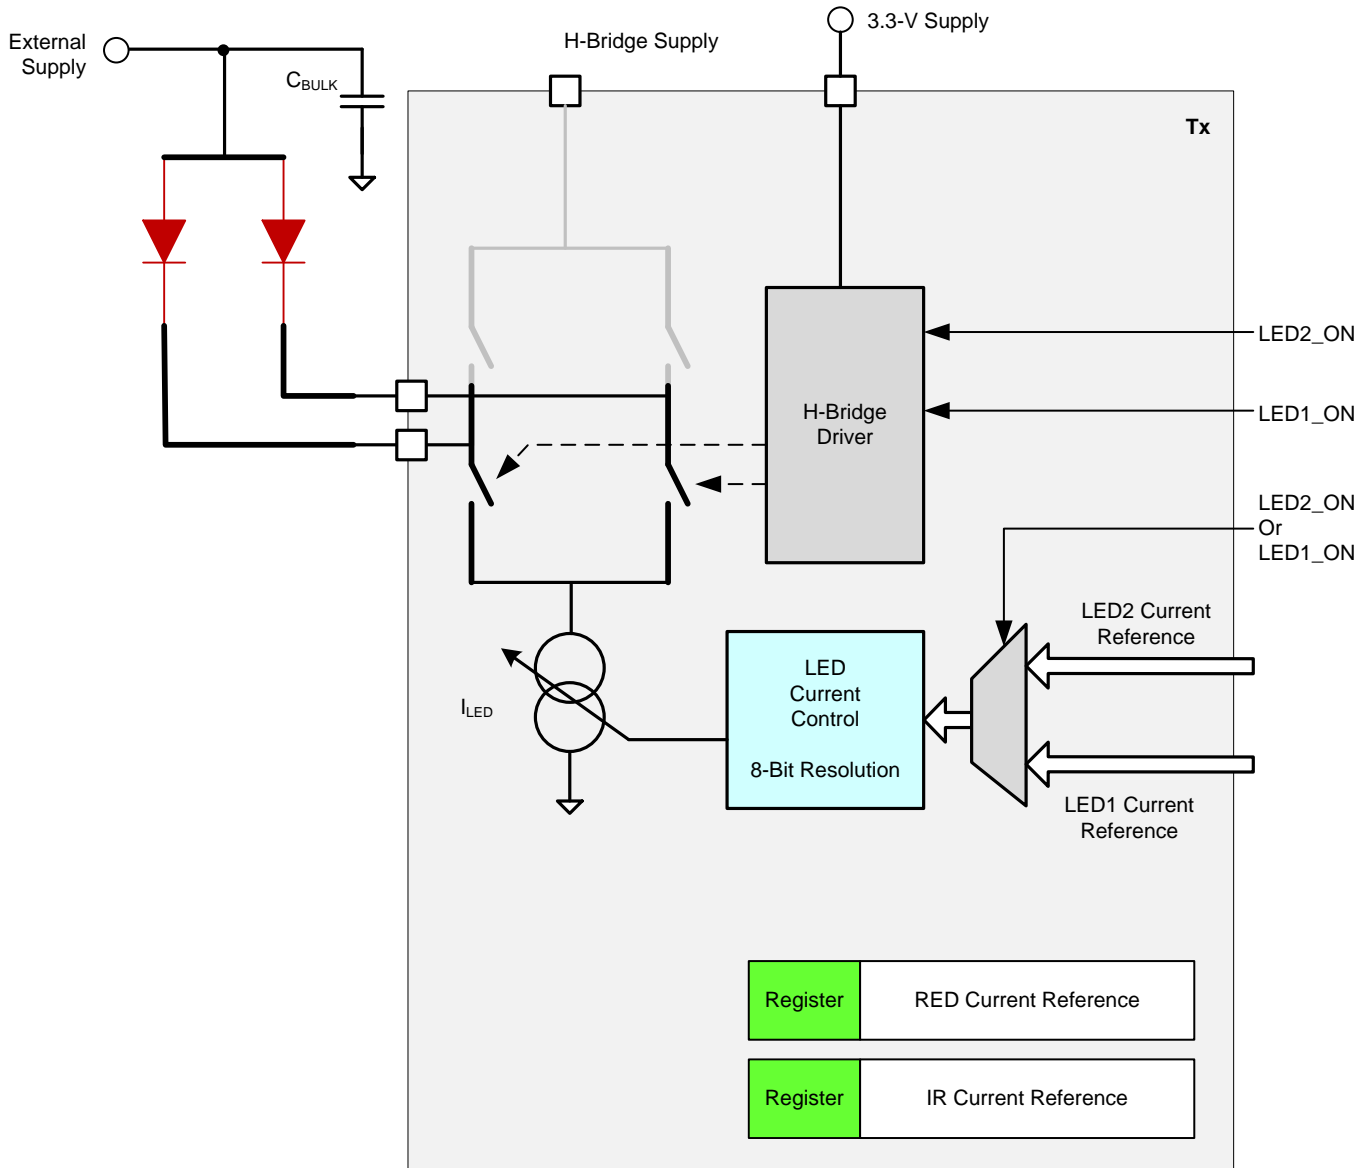

Figure 47. Transmit: Push-Pull LED Drive for Common Anode LED Configuration
- A push-pull drive for a three-terminal LED package; see Figure 47. The minimum external supply voltage = $2.0\text{ V} + (\text{maximum voltage drop across the LED})$.